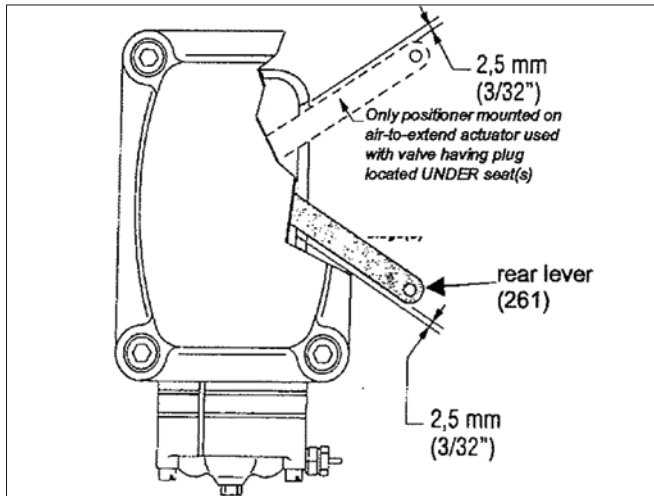

Figure A6 - Position of the rear lever for calibration
3. Turn screw (6) of the force-balance spring so this one is approximately parallel to the join of case.
4. Act alternatively on biasing spring adjusting screw (52) and on turnbuckle (263) in order to obtain both valve closing and a space about 2.5 mm between the rear lever edge (261) and the edge of the slot in the positioner case (see figure A6).
- Rotate the turnbuckle (263) in order to modify the force-balance spring (8) reaction until the actuator stem will be in proper position.
- If the positioner rear lever (261) hits against the case (figure A6), adjust its position by rotating the screw (6) of the force-balance spring (8).